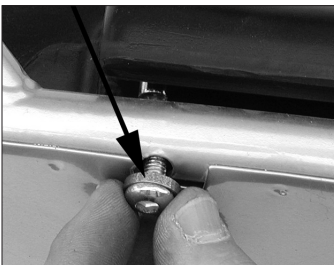
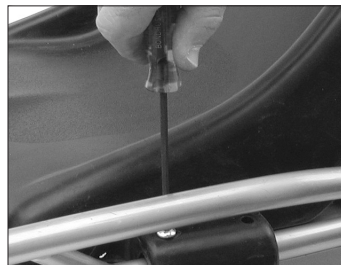

Figure 4a
Figure 4b
□ 2C. Attach the seat without seat belt assembly. Locate the four (4) long seat attachment screw and spacer washers in the parts bag. Position the seat over the frame and align it with the holes in the frame. Insert the screws as shown in Figure 4a, using the spacer washer as indicated by the arrow in Figure 4a. Insert all four screws and washers and tighten securely using two Allen key wrenches as shown in Figure 4b.